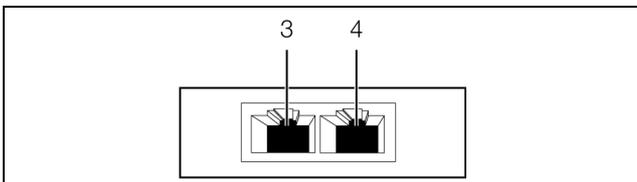

Fig. 11: Rear of the temperature sensor
- Use a CAN bus connection cable to connect the temperature sensor to a CAN bus interface on the CMC III Processing Unit or the neighbouring component on the CAN bus (fig. 11, item 3).
- If necessary, connect another component (e.g. another sensor type) to the second, free CAN bus interface of the temperature sensor (fig. 11, item 4).